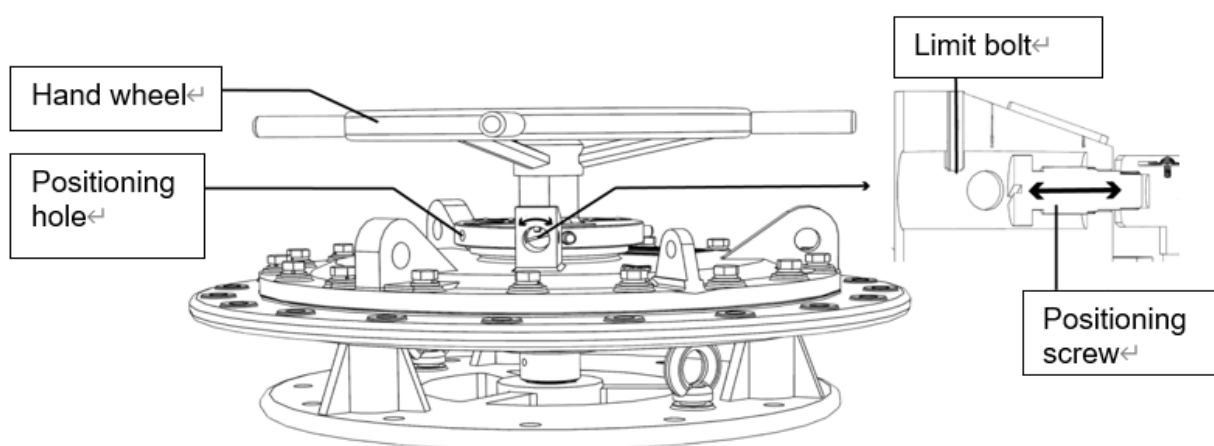

Fig10-Switch the positioning device by tightening the positioning screw
9.1.1 Loosen the positioning screw on the tap changer positioning device (Fig.10)